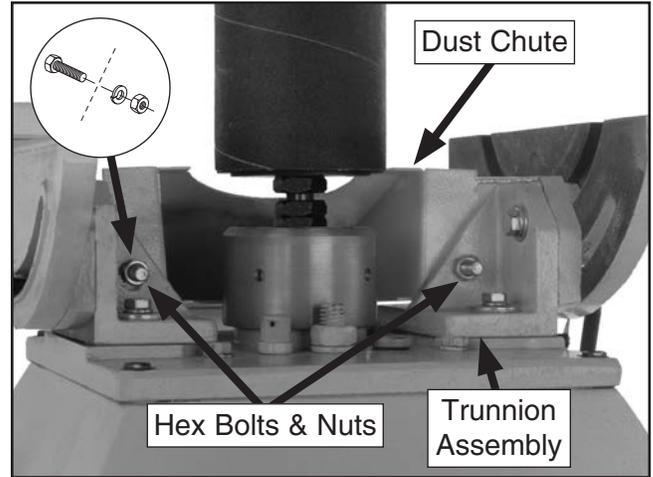

Figure 9. Dust chute.
4. Secure the dust chute to the trunnion assembly with (2) $\frac{3}{8}$ "-16 x $1\frac{1}{2}$ " hex bolts, $\frac{3}{8}$ " lock washers and $\frac{3}{8}$ "-16 hex nuts (see **Figure 9**).